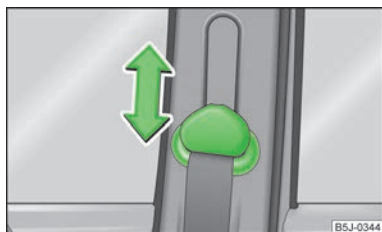

Fig. 101
- Press the height adjuster and move up or down in the desired direction » Fig. 101.